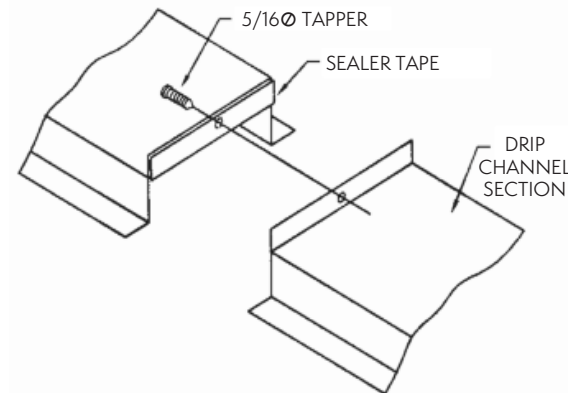

Figure 9 – Drip Channel Assembly
10. Fasten the drip channel sections together, end to end, by driving a self-tapping 5/16" screw through the section end with the larger hole into the mating end with the smaller hole. Stainless steel units will use 5/16" stainless steel nuts, bolts, and washers. (See **Figure 9**.)